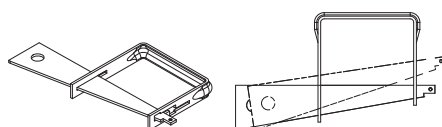

Fig. A2.05b
- For slab props Ø 76 – 89 mm, and 100 mm x 100 mm up to 120 mm x 120 mm. (Fig. A2.05b)